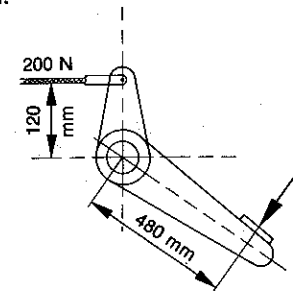

Fig. 5.11
- 5.10 Determine the force that must be applied to the foot-pedal shown in Figure 5.11 to produce a force in the connecting link of 200 N.